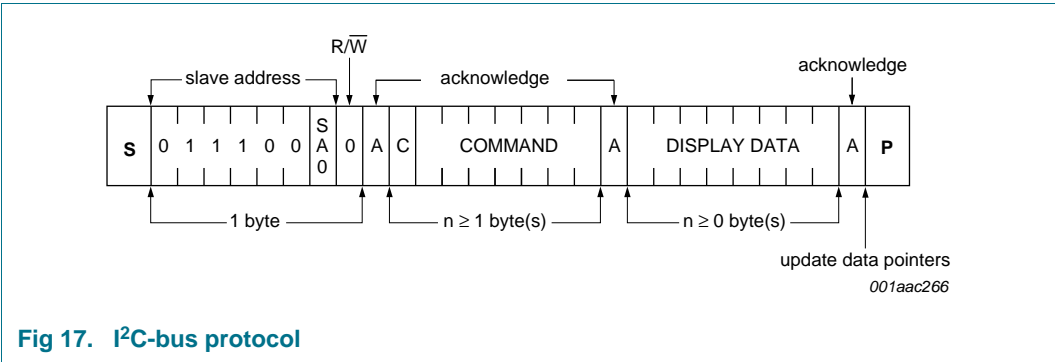

Fig 17. I²C-bus protocol
The I²C-bus protocol is shown in Figure 17. The sequence is initiated with a START condition (S) from the I²C-bus master which is followed by one of two possible PCF8562 slave addresses available. All PCF8562s whose SA0 inputs correspond to bit 0 of the slave address respond by asserting an acknowledge in parallel. This I²C-bus transfer is ignored by all PCF8562s whose SA0 inputs are set to the alternative level.